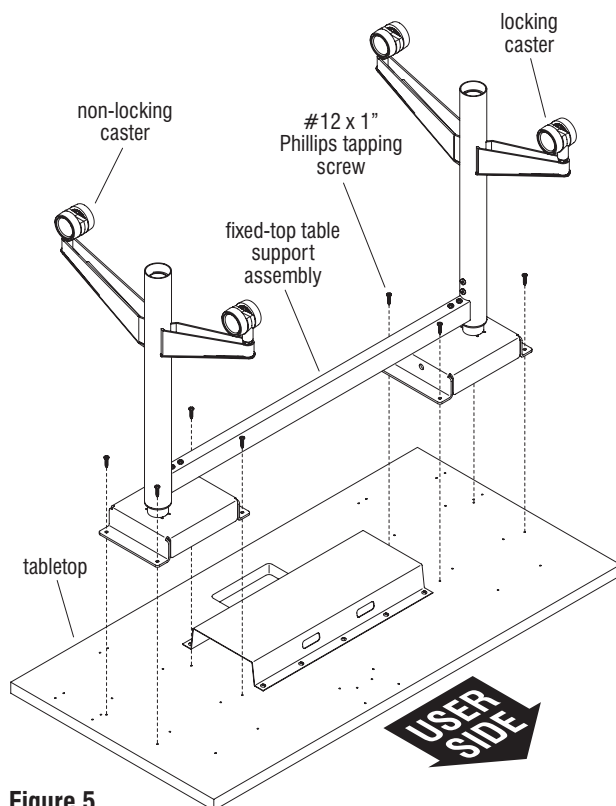

Figure 5
13. Carefully set the fixed-top table support assembly upside down onto the tabletop. If the table being assembled has casters, orient the locking casters to be facing the user side of the table, as illustrated (Figure 5).